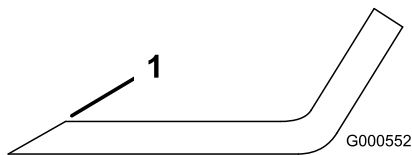

Figure 51
- Use a file to sharpen the cutting edge at both ends of the blade (Figure 51).
Note: If the blade is not balanced, file some metal off the end of the sail area only (Figure 51).